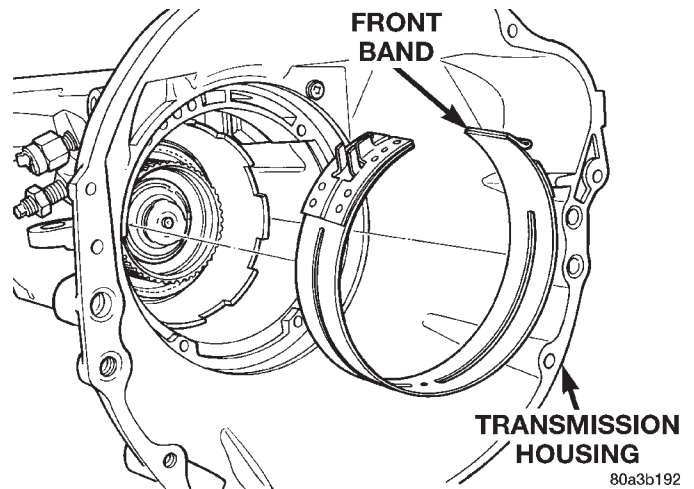

Fig. 106 Front Band
(33) Insert front band into opening at front of transmission case (Fig. 106).